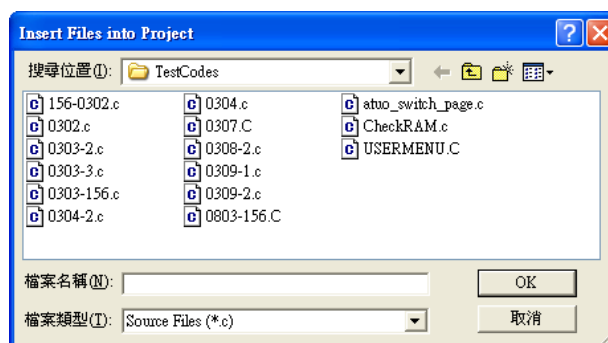

Fig. 3-8b "Open" Dialog
2. From the resulting **Open** dialog (Fig. 3.8b above) click on the source file and the file is automatically opened in the **Editor** window.